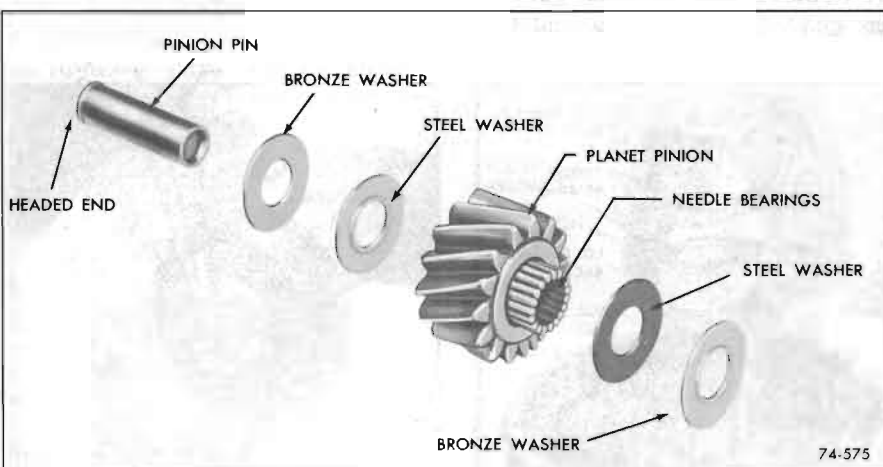

Figure 74-575
5. Install nineteen (19) needle bearings into each pinion, using petroleum jelly to hold the bearings in place. Use a pinion pin as a guide. See Figure 74-575.